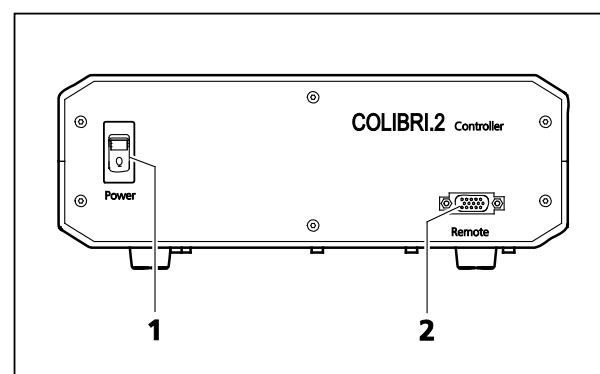
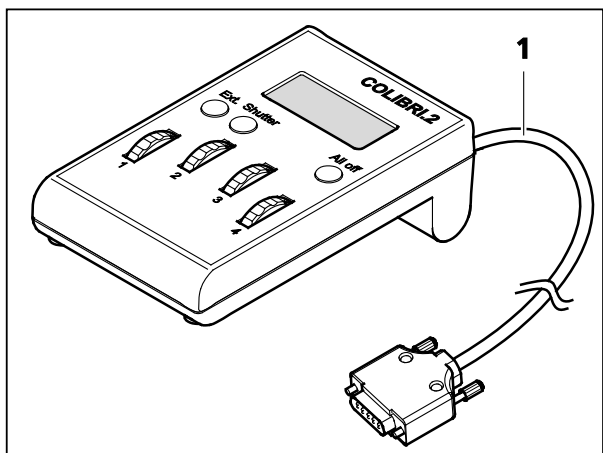

Fig. 3-6 Control unit, front
Fig. 3-9 Control panel
- Connect the connection cable of the control panel (see Fig. 3-9/1) to the 15-pin subD port of the control unit (see Fig. 3-6/2).
At the front of the device there is the ON/OFF switch **Power** (Fig. 3-6/1 with pilot lamp), as well as a 15-pin subD port (Fig. 3-6/2) for the control panel.
- The control panel has to be connected to the 15-pin subD port (see Fig. 3-6/2) of the control unit via the connection cable (Fig. 3-9/1).